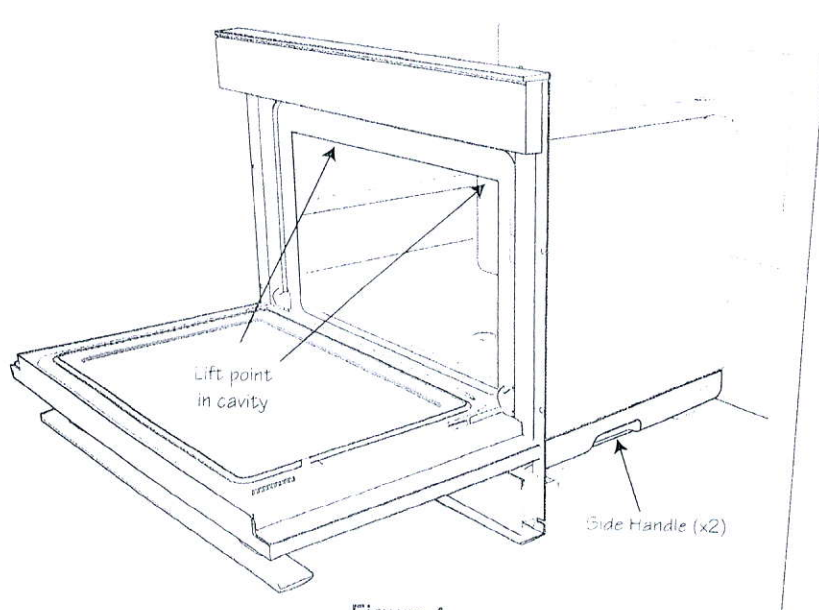

Figure 4
1. Open the SuperSteam+ Oven door and use lift points in Figure 4. Place the oven adjacent to the wall or cabinet opening. **DO NOT LIFT OVEN WITH HANDLE.** Plug the power supply cord into the electrical outlet.